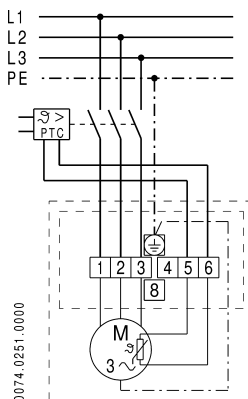

Fig. 2: Connection circuit diagram
At the factory, the fan has been switched in such a manner that it produces the largest possible airstream performance when it is connected to mains, as shown in the connection circuit diagram (Fig. 2). In the standard model, this results in the rotation and airstream directions shown in Tab. 2.
- The airstream direction can be reversed. This results in the following differences from Fig. 2: power line L2 to terminal 1 and L1 to terminal 2 (exchange of the external conductors). Note that, as a result,